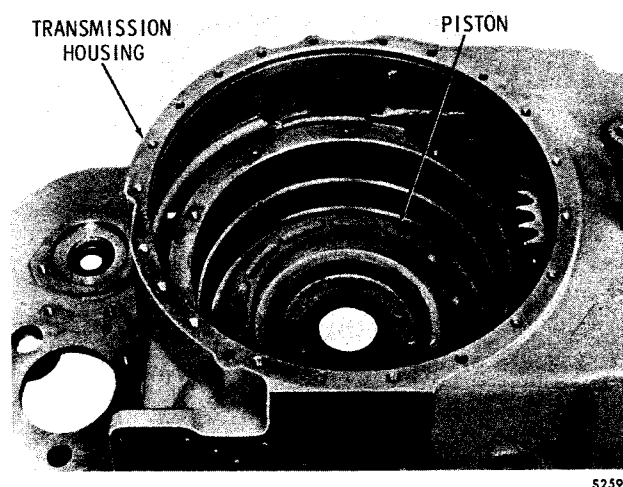

Fig. 7-12. Reverse-range clutch piston installed
(1) Position the transmission housing on blocks on its front splintline (fig. 7-12). Install the reverse-range clutch piston (as assembled in para 6-19) into the transmission housing.